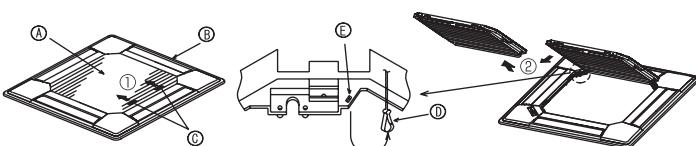
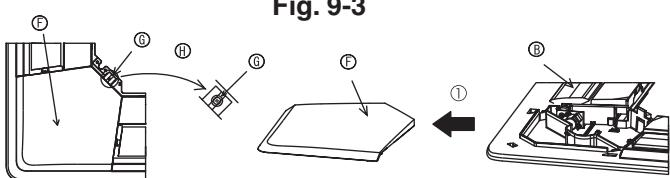

Fig. 9-3
Fig. 9-4
#### 9.2.1. Removing the intake grille (Fig. 9-3)
#### 9.2.2. Removing the corner panel (Fig. 9-4)
- Remove the screw from the corner of the corner panel. Slide the corner panel as indicated by the arrow ① to remove the corner panel.
- [Fig.9-3] [Fig.9-4]